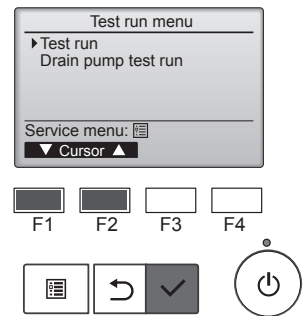

Fig. 7-2
- ② Select "Test run" from the Test run menu, and press the [SELECT] button. (Fig. 7-2)
- ③ The test run operation starts, and the Test run operation screen is displayed.
7.3. Self-check (Fig. 7-2)